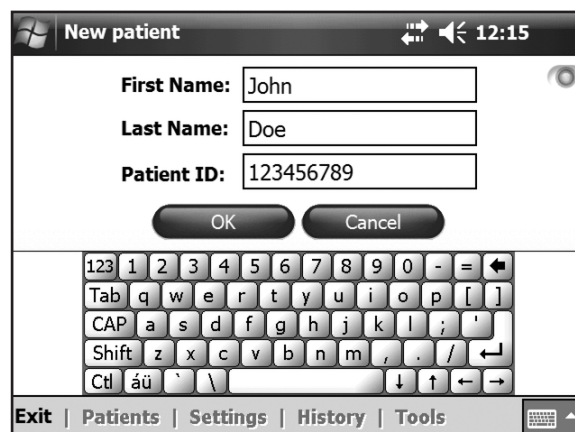

Figure 7-18: New Patient window.
2. For new patients, enter the patient's first and last name (alpha characters only) in the New Patient window, and assign a patient ID (1–14 characters). All fields must be completed. Then press **OK**. See Figure 7-18.